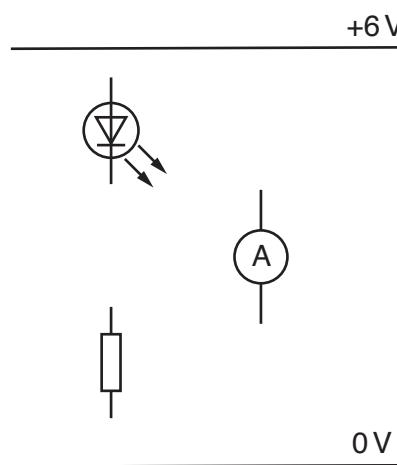

Fig. 2
- 2** Fig. 2 shows an LED, a resistor and an ammeter in a circuit.